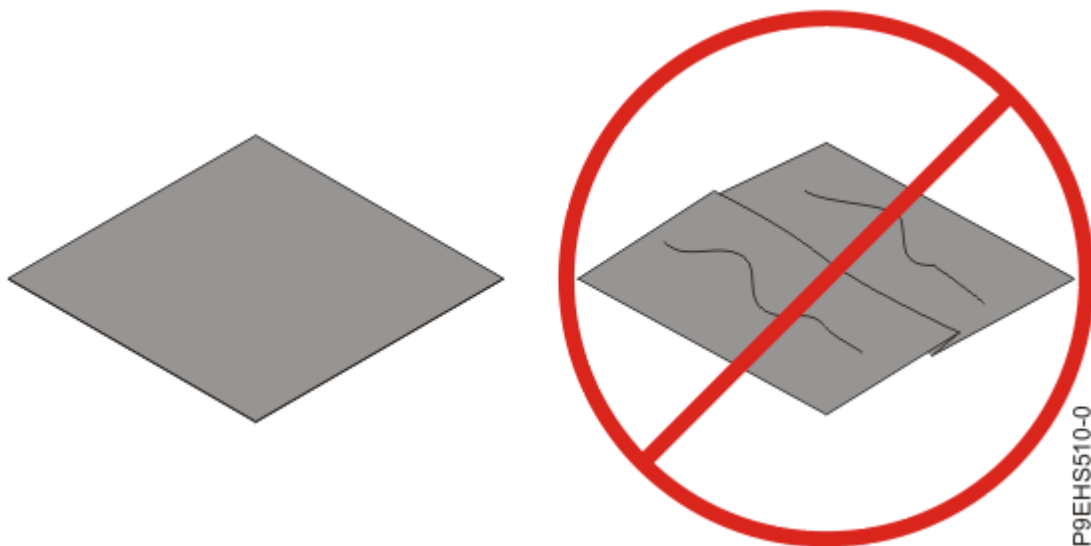

Figure 64. Inspecting the thermal interface material
- 16. Inspect the thermal interface material (TIM) for visible signs of damage, as shown in Figure 64 on page 80. If you see folds, tears, bends, or if you have doubts about the TIM, replace it.